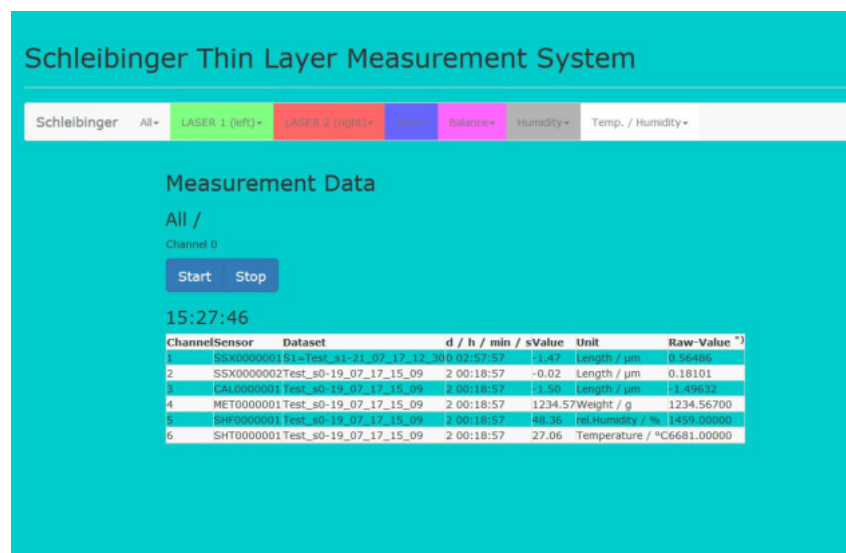

Figure 20: Measurement values in a numerical format
- Check the Laser position by displaying the raw values with: **All - Online Display** and press **Start** (Fig. 20). The raw value from the Laser sensors should be in the range of **32500 to 33000**.
- Enter the filename (optional). The filename will only appear in the column DATASET from **All - Online Display** (Fig. 20)